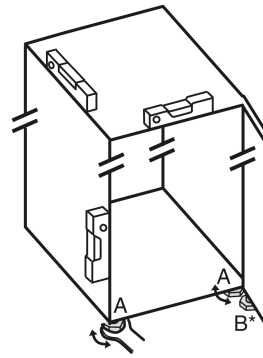

Fig. 4
- ▶ Unscrew the adjustable feet *Fig. 4 (A)* using the enclosed open-end spanner and a spirit level until the appliance is firmly aligned and level.
- ▶ Unscrew the adjustable foot *Fig. 4 (B)* on the swap bearing block with the enclosed open-end spanner until it rests on the floor.
- ▶ Turn the adjustable foot *Fig. 4 (B)* 90° further.